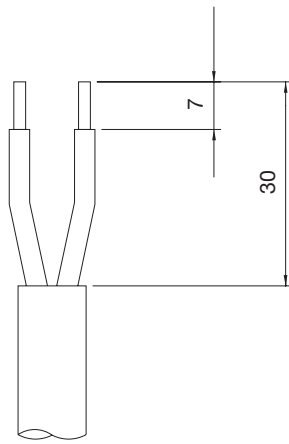

Fig. 18: Removal of cable insulation
- ▶ Strip the cable ends as shown in Fig. 18 and press on appropriate wire end ferrules.